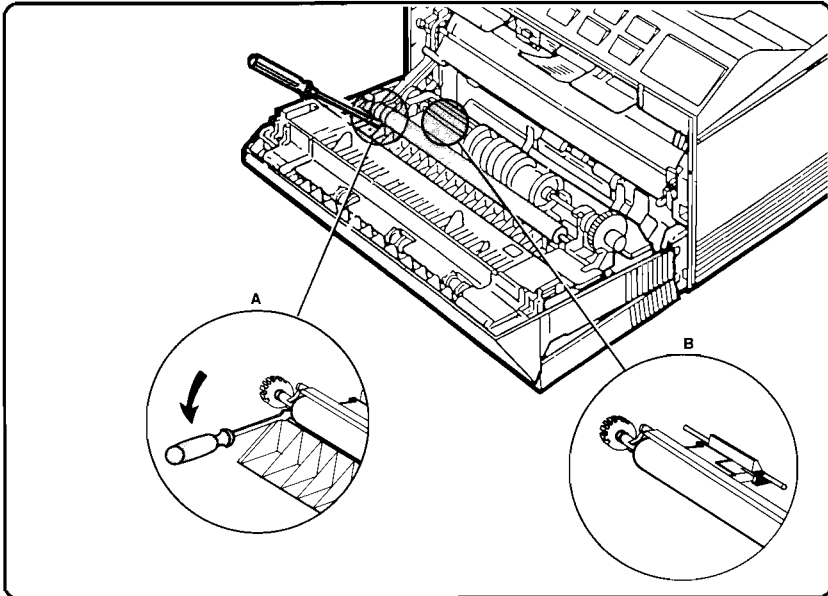

Figure 6-70. Transfer Roller Assembly Removal
The Transfer Roller Grounding Bracket must be properly aligned with the MP Pick-Up Roller Shaft during re-installation. Remove the Transfer Roller Assembly slowly and note how both parts fit together (see Figure 6-70, detail B).
2. Unlatch the left end of the Transfer Roller Assembly using a small flat-head screwdriver (see Figure 6-70, detail A). Slide the roller assembly to the left, and lift to remove.
2. Remove the Transfer Roller Assembly (see Figure 6-70).
3. Remove the Transfer Roller Assembly (see Figure 6-70).